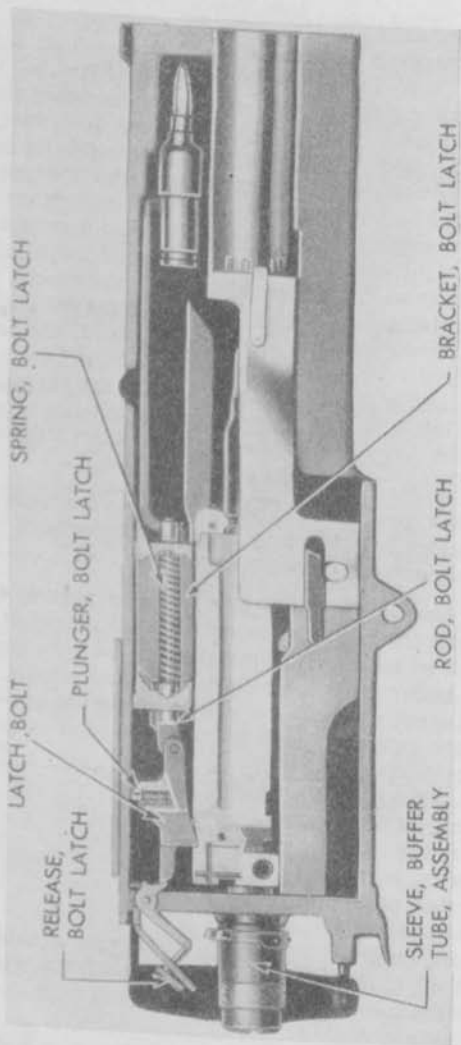

FIGURE 52.—Cut-away view of gun with bolt latch.
■ **79. BOLT LATCH.**—A bolt latch is provided in all flexible heavy barrel guns to allow the gun to be fired semiautomatically. It also serves to hold the bolt to the rear in order to keep the cartridge out of the hot chamber when firing has been suspended. The bolt latch is forced downward by the bolt latch plunger spring. As the bolt reaches its rearward position, the bolt latch engages a notch on the upper rear surface of the bolt and holds the bolt to the rear, thus causing the gun to cease firing (see fig. 52.) The counterrecoil stroke is completed by pressing down on the bolt latch release to raise the bolt latch, thereby allowing counterrecoil to take place. Providing a cartridge is in the chamber, firing will be resumed when trigger action is supplied. If the bolt latch release is held down manually, or if it is locked down by the lock on the buffer tube sleeve, the gun will fire automatically. If the bolt latch release is pressed down but not retained in that position, the gun will fire only once when trigger action is given.